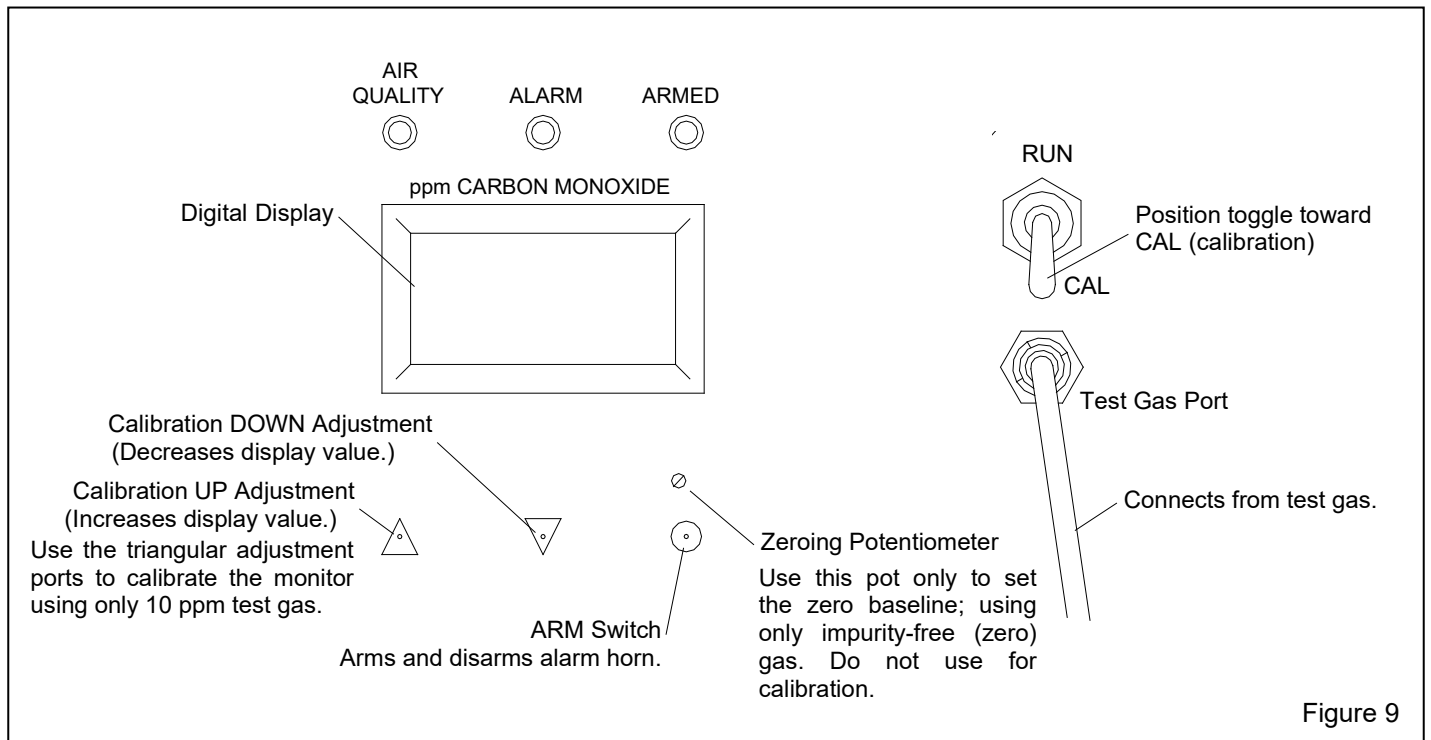

Figure 9
**4.5.1** Open the instrument case cover to access the faceplate. Refer to Figure 9 for faceplate-calibration and testing callouts.
**5.2** Open the instrument case cover to access the faceplate. Refer to Figure 9 for callouts.